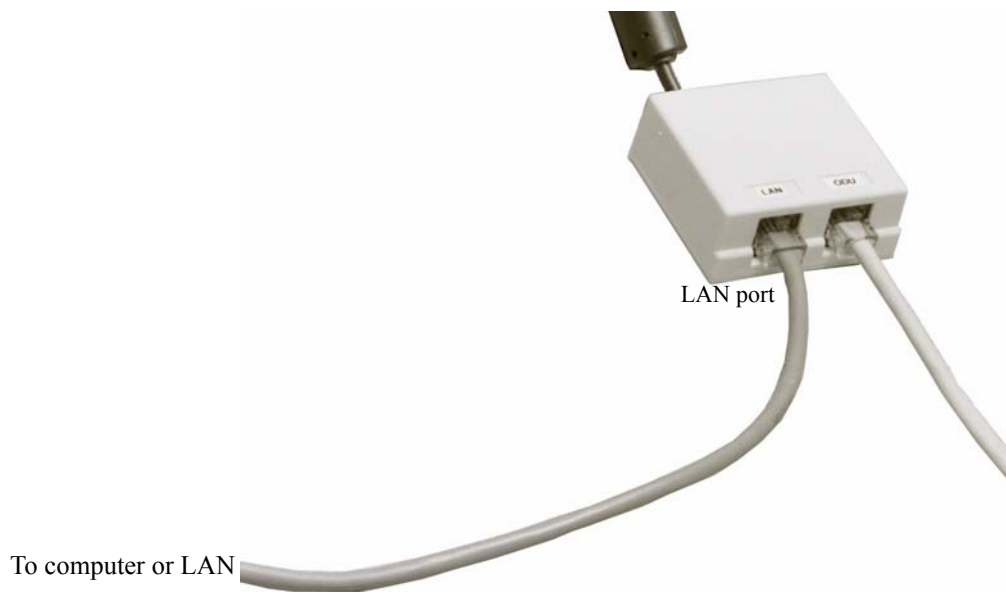

Figure 4-9 Subscriber Ethernet Connection
2. Plug one end of the Ethernet cable into the RJ45 socket labeled LAN on the Interface Box, as illustrated in Figure 4-9.